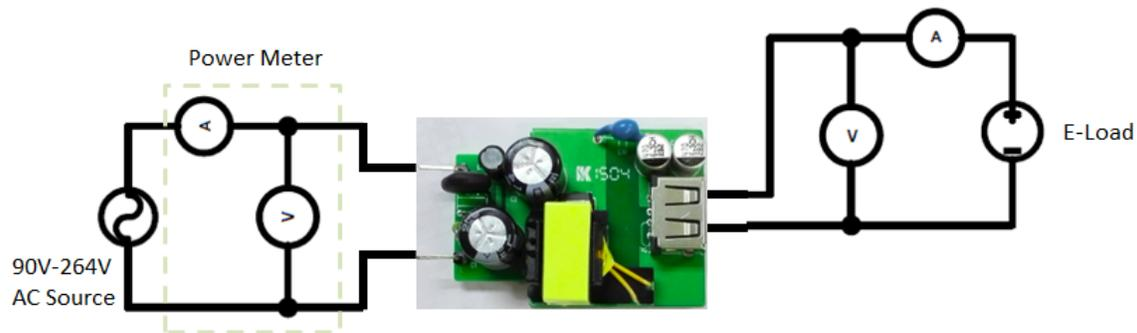

Figure 1: Test Setup for NCP1365 Demoboard
1. Connect the test setup as shown in Figure 1.